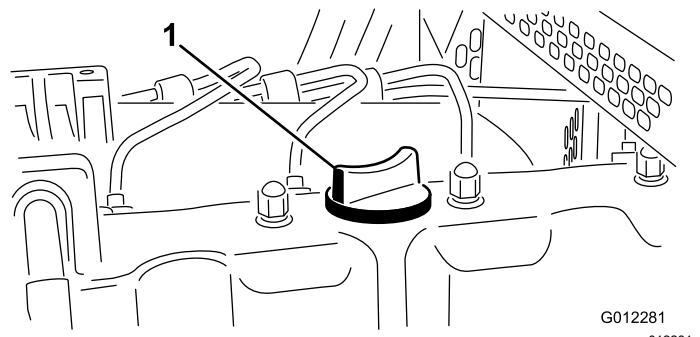

Figure 37
5. If the oil level is below the FULL mark, remove the fill cap (Figure 37) and add oil until level reaches the FULL mark on dipstick.